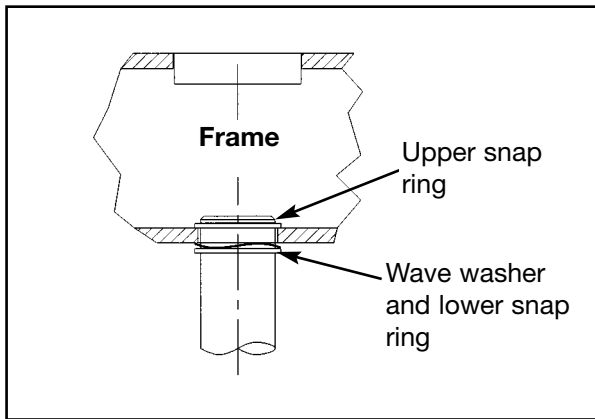

Figure 5
**4. Install Weight Stack** (refer to steps 4A - 4O and Figures 5 - 7).
- A.** Using an external snap ring pliers, slide the lower snap ring (and wave washer) down about two inches from the top part of the guide rod (this will provide access to the upper ring). Repeat this step for the other guide rod. See Figure 5.